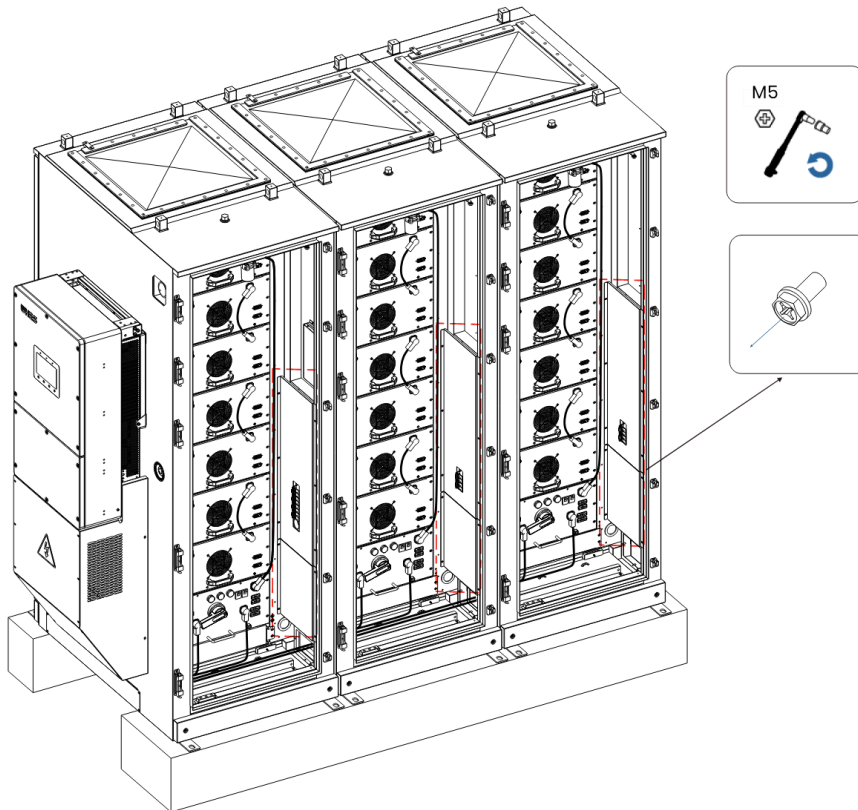

Figure 4-9 Remove the communication cable cover plate
■ **Figure 4-9 Indication of Outgoing Lines in the Cabinet**